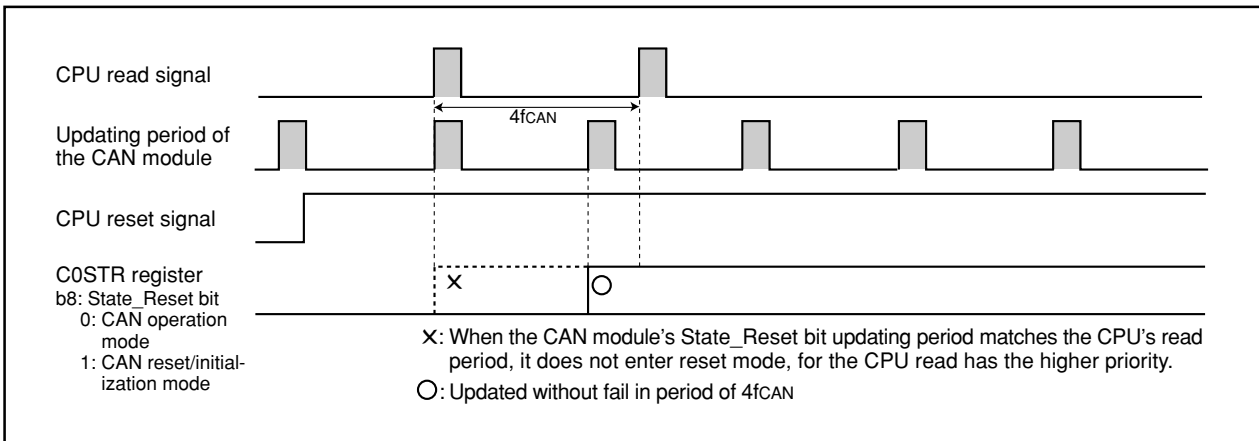

Figure 1.11.3 When Polling Period of CPU is 3fCAN or Longer
- (2) When the CPU polls the C0STR register, the polling period must be  $3f_{CAN}$  or longer. (See Figure 1.11.3.)